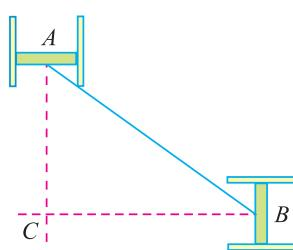

Fig. 22.6
1. The ends A and B of a link 1.5 m long are constrained to move in vertical and horizontal guides as shown in Fig. 22.6.